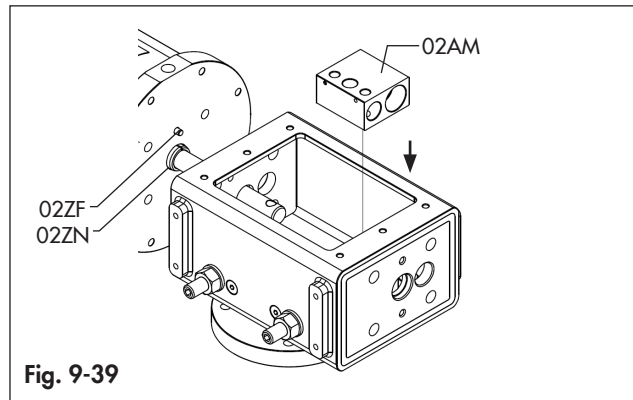

Fig. 9-39
- Make sure the components (02ZN), if any, and the pins (02ZF) are in the correct position, as per Fig. 9-39.